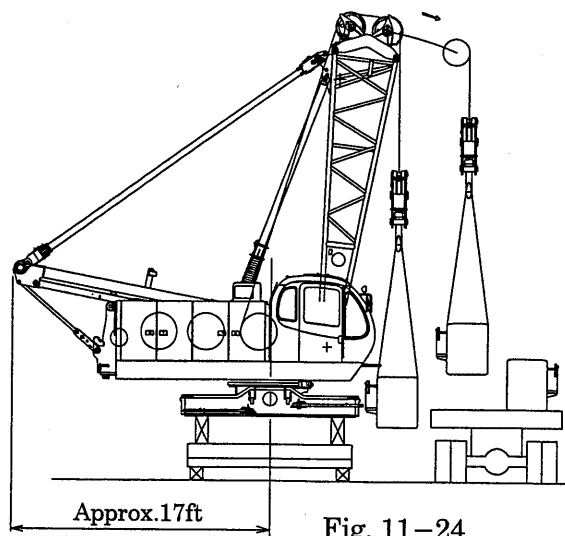

Fig. 11-24
- (9) Remove another crawler in a similar manner. (Fig. 11-24)